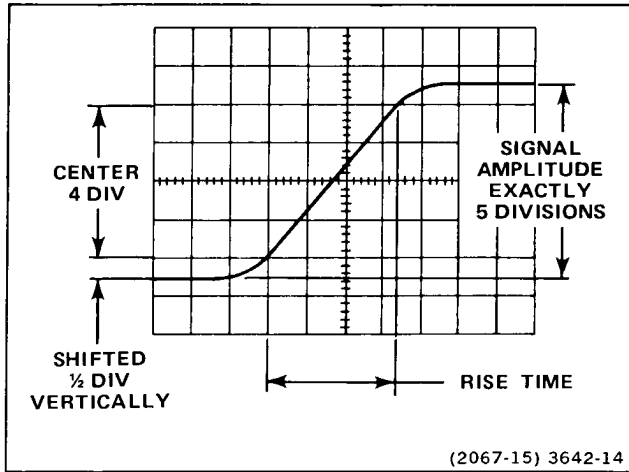

Figure 4-3. Rise time.
d. Using the oscilloscope vertical position control, shift the display one-half division (see Figure 4-3).
e. Measure the rise time of the displayed waveform and record it for later use in part m of this check (see Figure 4-3).
k. Using the oscilloscope vertical position control, shift the display one-half division (see Figure 4-3).
l. Measure the rise time of the displayed waveform and record it for use in the next part of this check (see Figure 4-3).